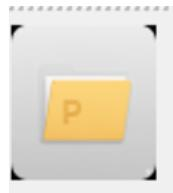

Figure 4. Icon for "Create/Select Project Folder" menu
3. Click the folder icon like Figure 4 on the left-side menu (or press **F2** shortcut key) to designate a project folder.